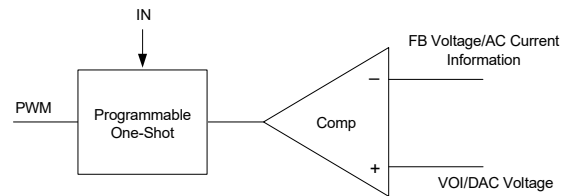

Figure 9. Simplified Control Schematic
The control algorithm of AOZ2231CQI-23 is constant-on-time PWM control with input feed-forward. The simplified control schematic is shown in Figure 9. The high-side switch on-time is determined solely by a one-shot whose pulse width is inversely proportional to input voltage (IN). The one-shot is triggered when the internal VOI/DAC voltage is higher than the combined information of output voltage and the AC current information of inductor, which is processed and obtained through the sensed low-side MOSFET current once it turns-on. The added AC current information can help the stability of constant-on-time control even with pure ceramic output capacitors, which have very low ESR. The AC current information has no DC offset, which does not cause offset with output load change, which is fundamentally different from other  $V^2$  constant on-time control schemes.